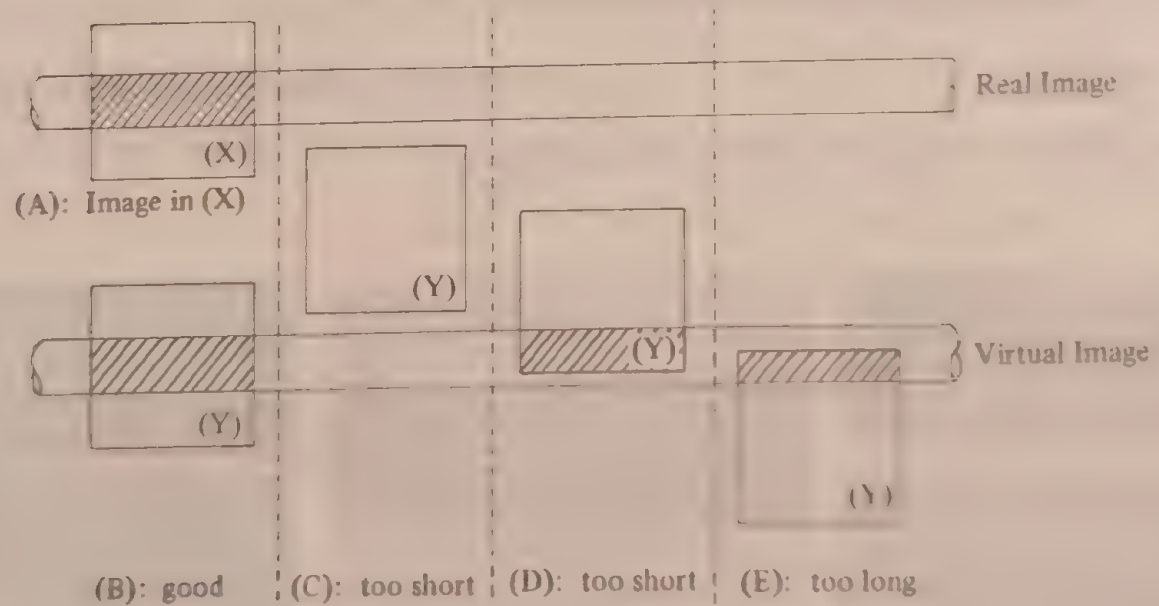

Fig. 362-3 Example of FIELD & FOCUS Motors Driving Time TFFM in Automatic FIELD Exchange from (X) to (Y)
- ① Turn off Dip Sw 5 Bit 5 to make the FIELD switch function manual and turn on the Dip Sw 5 Bit 6 to make the AXIS switch function for ZL & ZR.
- ② Set the optical fiber on the V groove and move the fiber forward along Z-axis then adjust the fiber image position to the center of the monitor in (X) by FIELD switches as shown in Fig. 362-3 (A).
- ④ The FIELD & FOCUS motors driving time TFFM is good when the automatic FIELD exchange results in Fig. 362-3 (B).
But the TFFM is too short when the automatic FIELD exchange results in Fig. 362-3 (C) or (D). In this case increase the TFFM by Dip Sw 4 Bit 1 ~ 3.
The TFFM is too long when the automatic FIELD exchange results in Fig. 362-3 (E). In this case decrease the TFFM by Dip Sw 4 Bit 1 ~ 3.